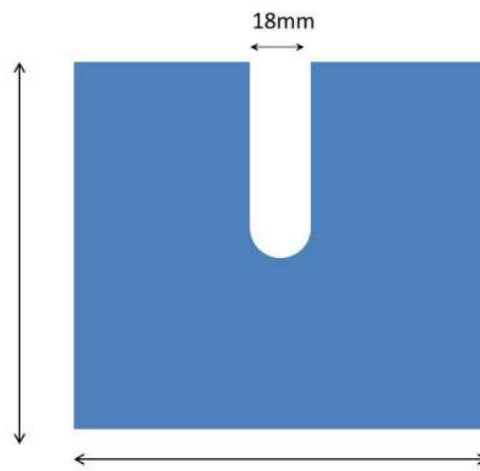

Figure 14. Modified cable bolt plate with slot cut out for instrumented cable bolt.
- 10 x site standard cable bolt plates to have a channel cut out of them as shown in Figure 14
- The modified cable bolt plate will have a slot cut out of one side, as pictured in Figure 14.